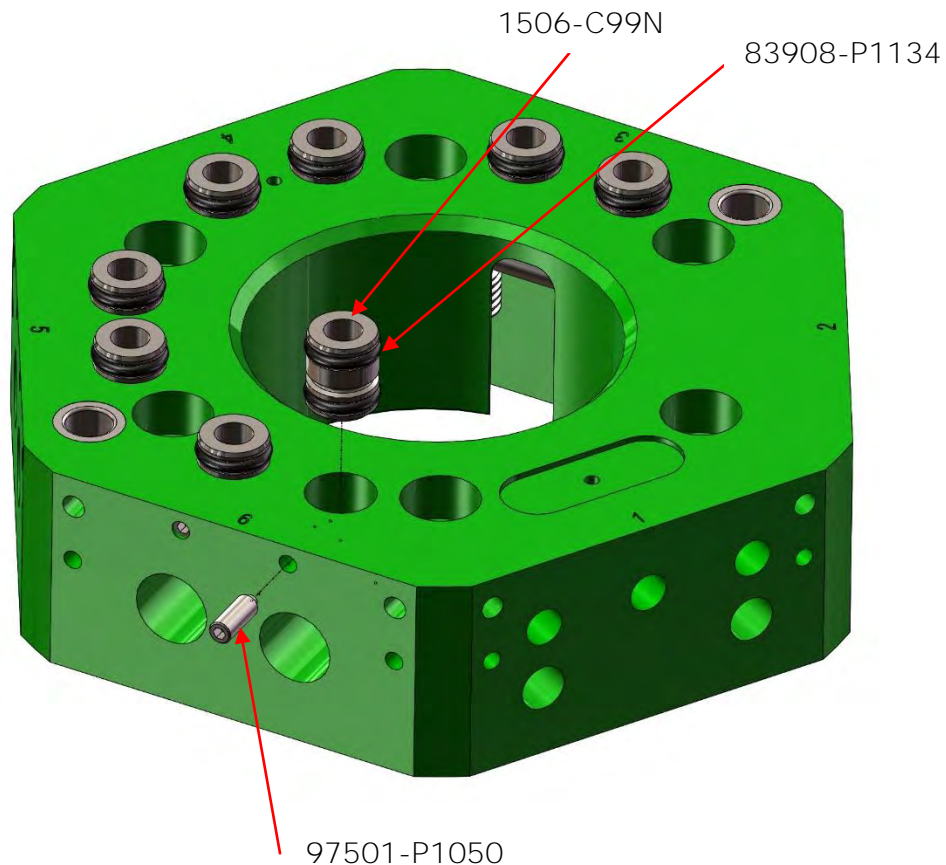

Figure 10.2.3-1. Air Valve Fitting Replacement
2. Replace the (2) o-rings (83908-P1134), set screw and or valve fitting if necessary.
4. Push the valve fitting assembly (valve fitting and o-rings) into the valve fitting hole by hand until it bottoms out in the hole. Ensure the proper orientation of the valve fitting as shown in Figure 10.2.3-1.